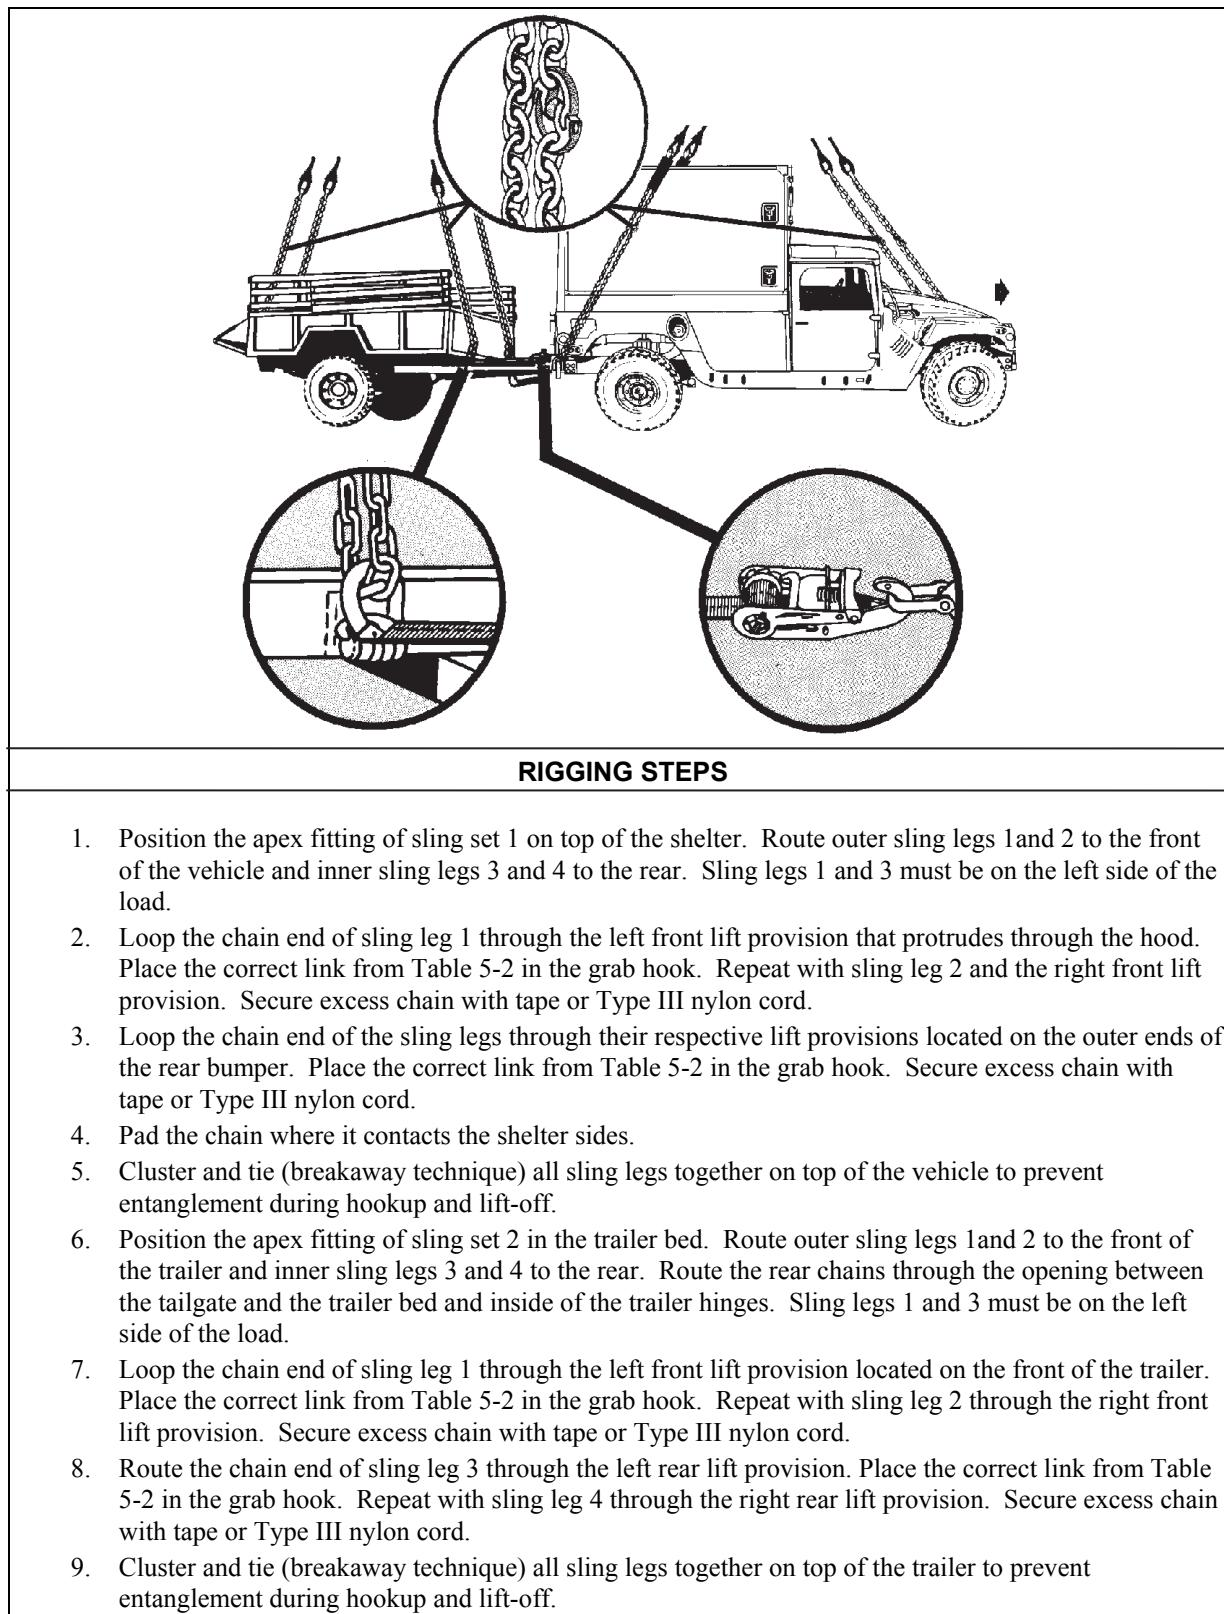

Figure 5-2. M1037 Shelter Carrier with M101A2 Trailer, Cargo
- **Rigging.** Rig the load according to the steps in Figure 5-2.